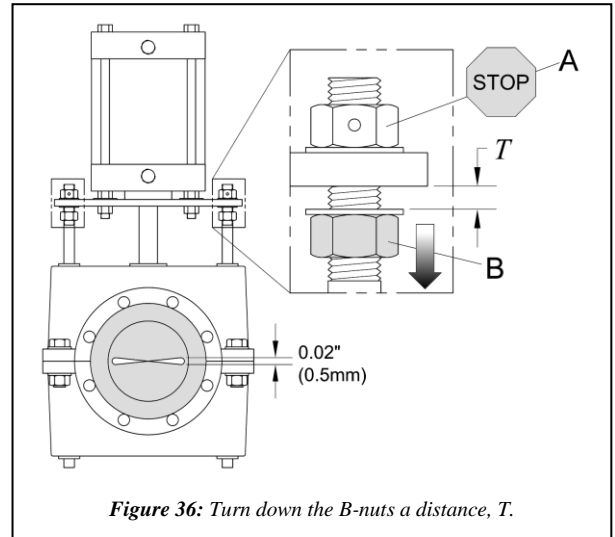

Figure 36: Turn down the B-nuts a distance,  $T$ .
STEP 11: Once the gap(s) are set with the RV Valve closed, turn the B-nuts (Fig. 36) away from the fastening plate ③ a distance,  $T$ , as found in table 3.